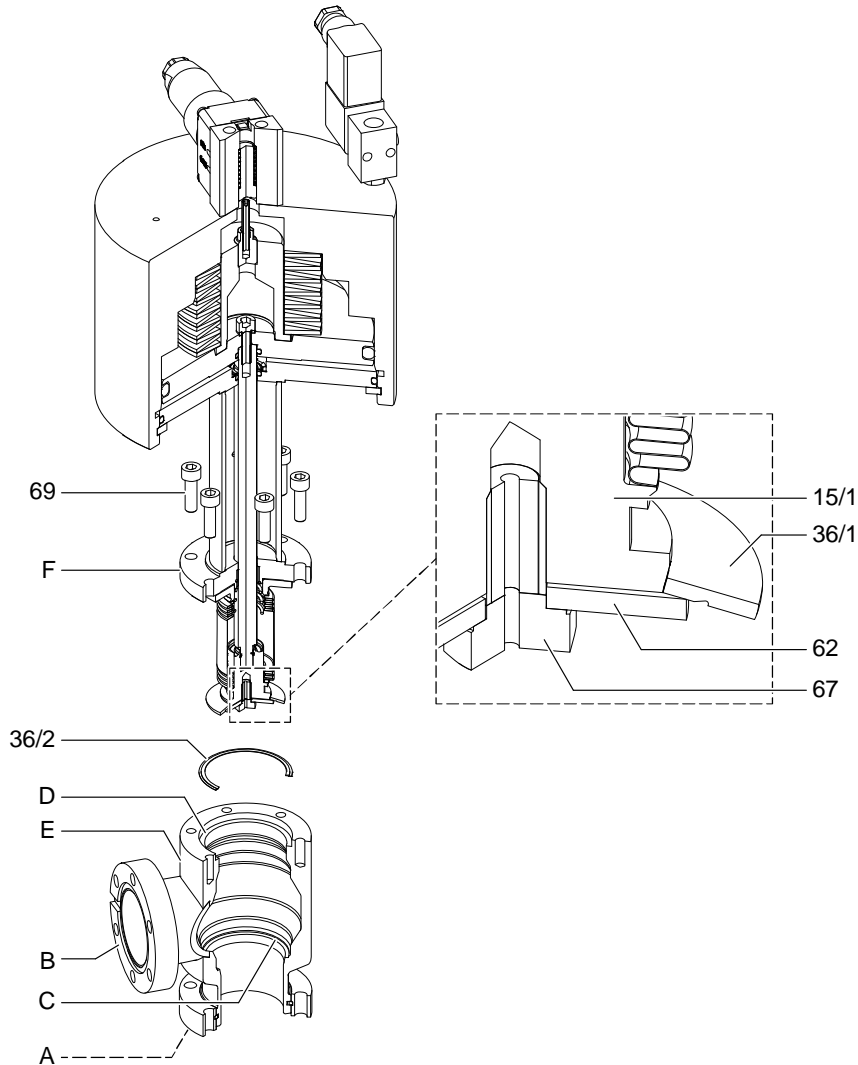

Figure 7-1
**Ordering information:** See chapter «11 Spare parts» on page 31 and «Figure 7-1» on page 22.
The item numbers in brackets refer to «Figure 7-1» on page 22.